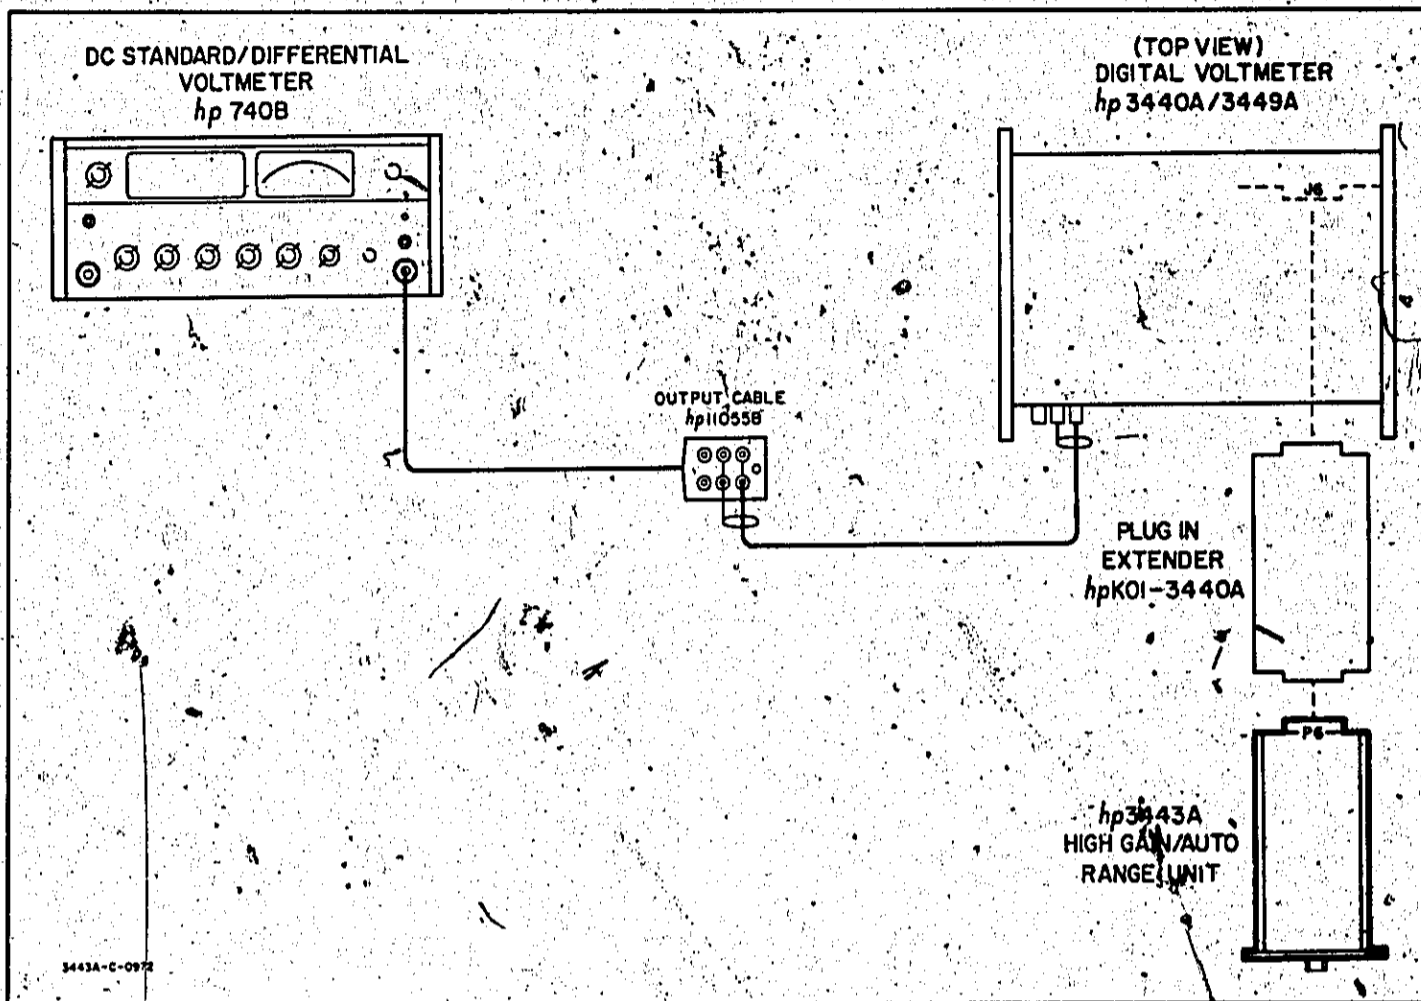

Figure 5-2. Adjustment and Calibration Setup
- a. Connect Model 3443A as shown in Figure 5-2.
- a. Connect 3443A as shown in Figure 5-2.
- Connect 3443A as shown in Figure 5-2.